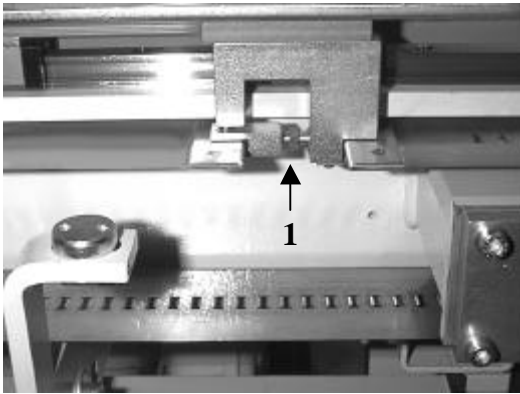
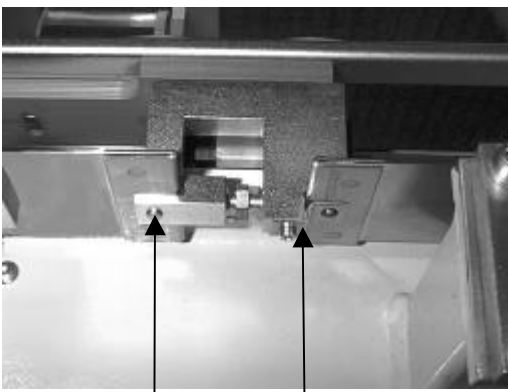

Fig. 1
Fig. 2
1. With the tension screw (Fig. 1/1) release band tension until the band fixing bolt (Fig. 2/1) near the lock plate can be pulled out.